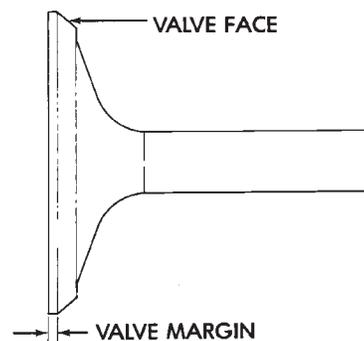

Fig. 90 Intake and Exhaust Valve Refacing
- (1) The intake and exhaust valve seats and valve face have a 45 degree angle.
- (2) Inspect the remaining margin after the valves are refaced (Fig. 90). Intake valves with less than 0.95 mm (1/32 inch.) margin and Exhaust valves with less than 1.05 mm (3/64 inch) margin should be discarded.